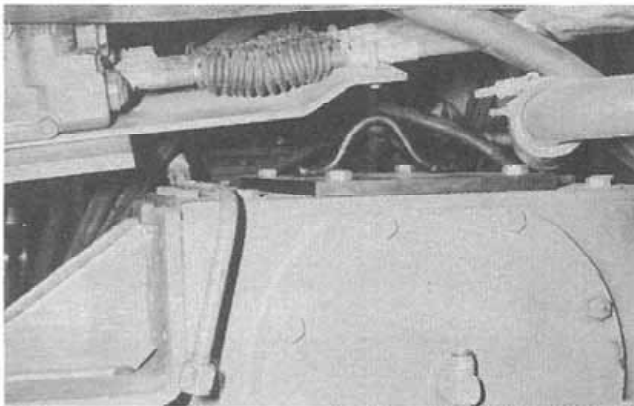

Figure 11:
14. Remove the oil line, vent assembly, return line clamp band and the four (4) middle capscrews from the top of the transfer case. Use the four (4) capscrews to attach the lifting fixture to the transfer case assembly (Fig. 11).